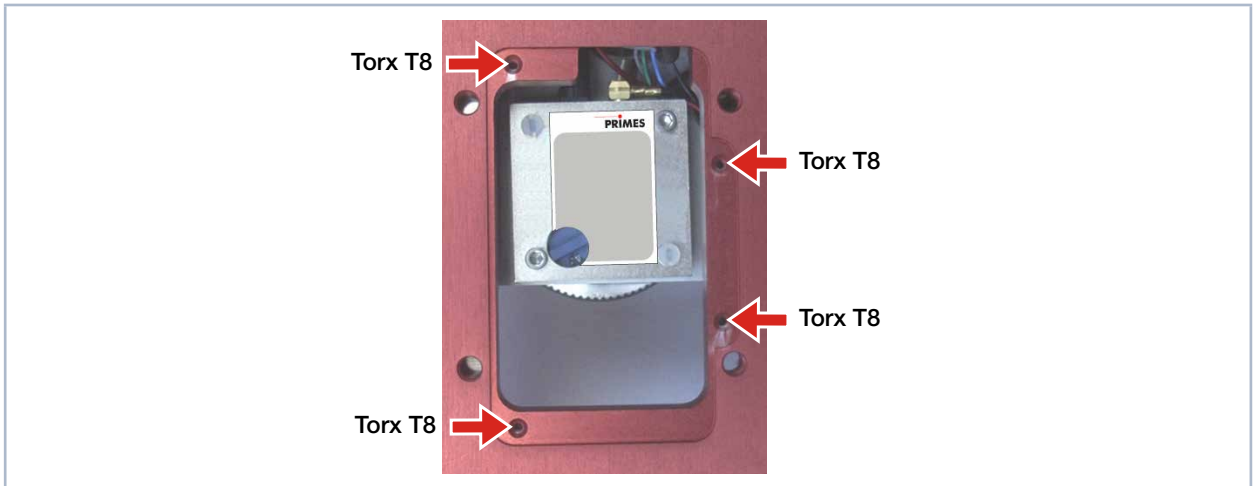

Fig. 16.1: Opened cover of BeamMonitor BM+ with detector
1. Place the cover on the casing (see Fig. 16.1 on page 65).